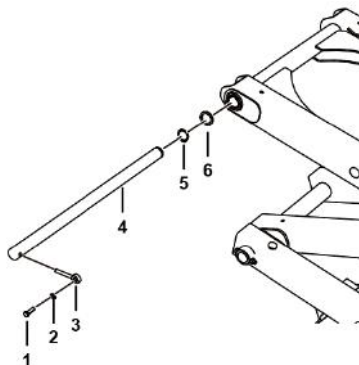

Fig. 3.5 Front connection between fork and platform
4. As shown in Fig. 3.5, remove the connecting pin between the main platform and the fork with a special tool.